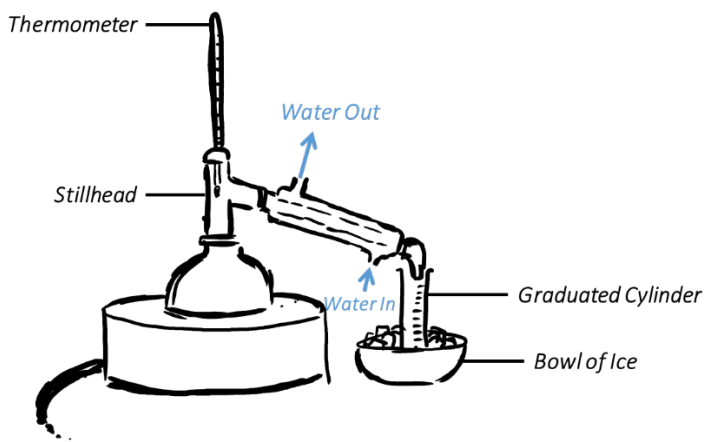

Figure 2
7. Re-assemble apparatus as depicted in **Figure 2**.